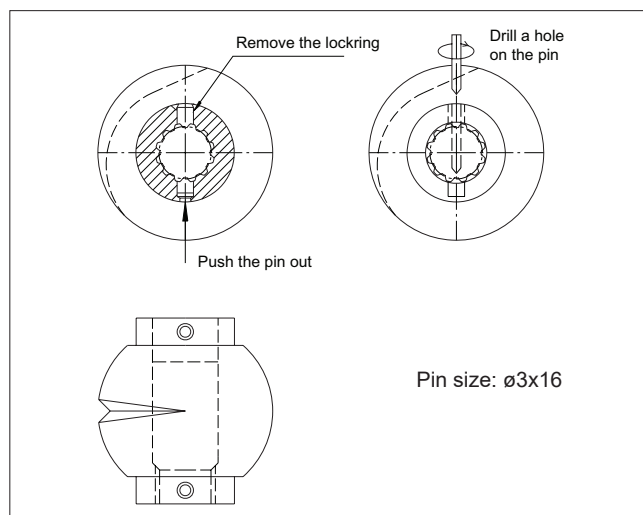

Fig. 21 Drilling the pin, FL
- Assemble the back seal (6) into the seat (7). Push the support ring (8) on the seat (6) following with the spring (5). Push these parts as a package in the body cavity. Note that part (4) is factory locked to the body and should not have been removed.
- Put the lower bearing (17) on the shaft (12) and the upper bearing (17) in the body cavity. Check that the pin holes in the ball (3) have not been damaged during dismantling.
- Assemble the ball (3) in the body and the shafts (11,12) through the shaft holes so that the pin holes are parallel with each other. Press the pins into the ball/shaft holes and lock them with a centre punch. See Fig. 21.
- Assemble the seal (19), blind flange (10) and the hexagon screws (26) and tighten.
- Assemble and tighten the studs (24), insert packing rings (20), gland (9), retainer plates (30), disc spring sets (32) and the nuts (25) and tighten.
- Insert the key (13) in the drive shaft (11) keyway.